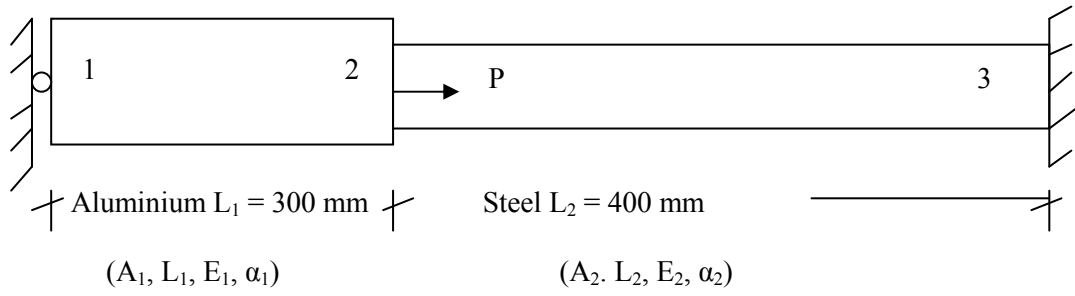

Fig. 2 (OR Q.5)
- Q.5** Determine the nodal displacements at node 2, stresses in each material and support reaction in the bar shown in fig. 2, due to applied force $p = 400$ kN and temperature rise of 30°C . Given data $A_1 = 2400 \text{ mm}^2$, $A_2 = 1200 \text{ mm}^2$, $L_1 = 300 \text{ mm}$, $L_2 = 400 \text{ mm}$, $E_1 = 0.7 \times 10^5 \text{ MPa}$, $E_2 = 2 \times 10^5 \text{ MPa}$ and $\alpha_1 = 22 \times 10^{-6} / ^\circ\text{C}$, $\alpha_2 = 12 \times 10^{-6} / ^\circ\text{C}$ **12**